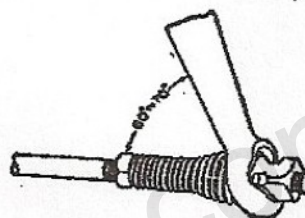

Fig. N19. Correct angle of Bendix levers with brakes released
2. Now check angle of cam shaft operating levers to which the pull rods are attached at the brake end. All levers should stand at just more than right angles fully applied or at approximately 65 degrees to their pull rods when brakes are released, as shown in Fig. N19. If levers do not stand at position of maximum leverage they should be reset as follows: